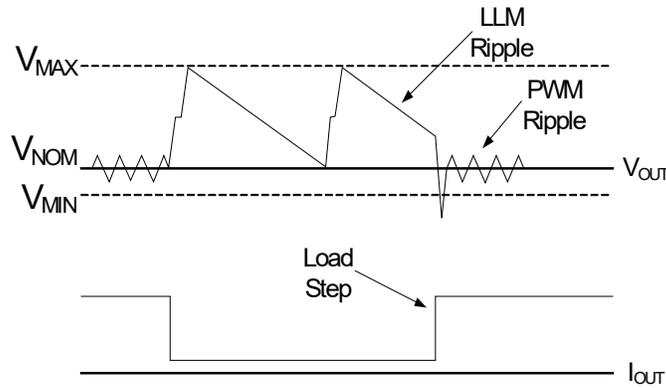

Figure 6:  $V_{OUT}$  Behavior in LLM Operation
The EP53A7xQI uses a proprietary light load mode to provide high efficiency in the low load operating condition. When the LLM pin is high, the device is in automatic LLM/PWM mode. When the LLM pin is low, the device is in PWM mode. In automatic LLM/PWM mode, when a light load condition is detected, the device will (1) step  $V_{\text{OUT}}$  up by approximately 1.5% above the nominal operating output voltage setting,  $V_{\text{NOM}}$ , and then (2) shut down unnecessary circuitry, and (3) monitor  $V_{\text{OUT}}$ . When  $V_{\text{OUT}}$  falls below  $V_{\text{NOM}}$ , the device will repeat (1), (2), and (3). The voltage step up, or pre-positioning, improves transient droop when a load transient causes a transition from LLM mode to PWM mode. If a load transient occurs, causing  $V_{\text{OUT}}$  to fall below the threshold  $V_{\text{MIN}}$ , the device will exit LLM operation and begin normal PWM operation. Figure 6 demonstrates  $V_{\text{OUT}}$  behavior during transition into and out of LLM operation.
Many multi-mode DC-DC converters suffer from a condition that occurs when the load current increases only slowly so that there is no load transient driving  $V_{OUT}$  below the  $V_{MIN}$  threshold (shown in Figure 6). In this condition, the device would never exit LLM operation. This could adversely affect efficiency and cause unwanted ripple. To prevent this from occurring, the EP53A7xQI periodically exits LLM mode into PWM mode and measures the load current. If the load current is above the LLM threshold current, the device will remain in PWM mode. If the load current is below the LLM threshold, the device will re-enter LLM operation. There will be a small droop in  $V_{OUT}$  at the point where the device exits and re-enters LLM, as shown in Figure 7. The load current at which the device will enter LLM mode is a function of input and output voltage. Figure 8 shows the typical value at which the device will enter LLM operation. The actual load current at which the device will enter LLM operation can vary by  $\pm 30\%$ . Table 1 shows the minimum load current below which the device is guaranteed to be in LLM operating mode.